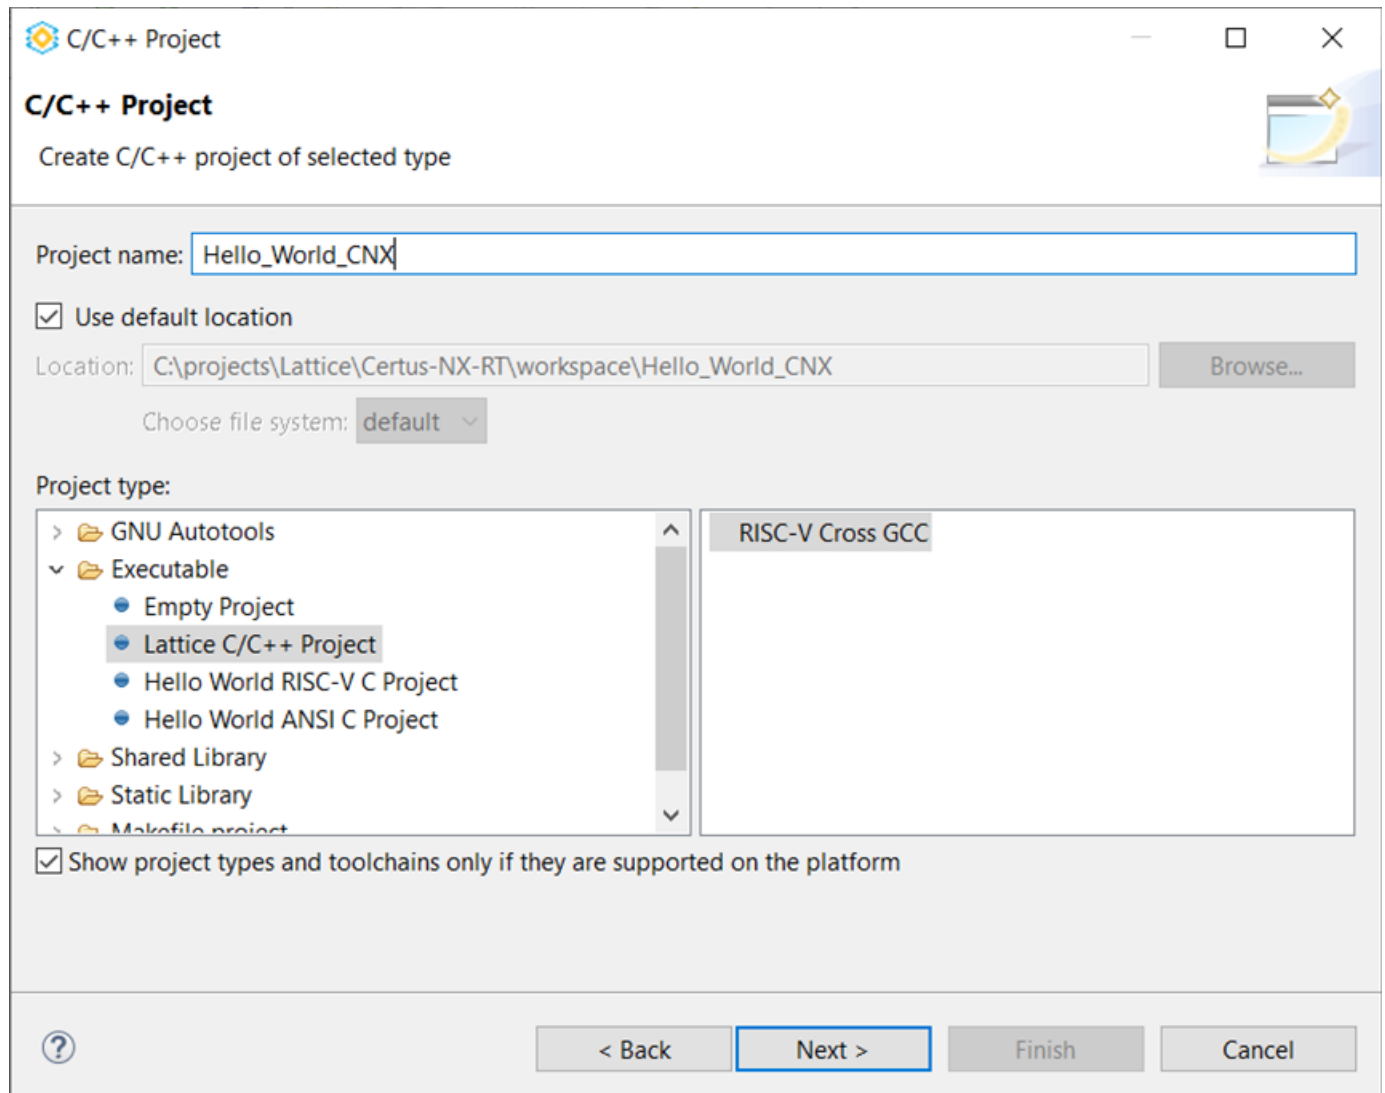

Figure 11: Naming the Project
8. Name the project **Hello_World** and accept all defaults, click **Next** and **Finish**, see **Figure 11**.